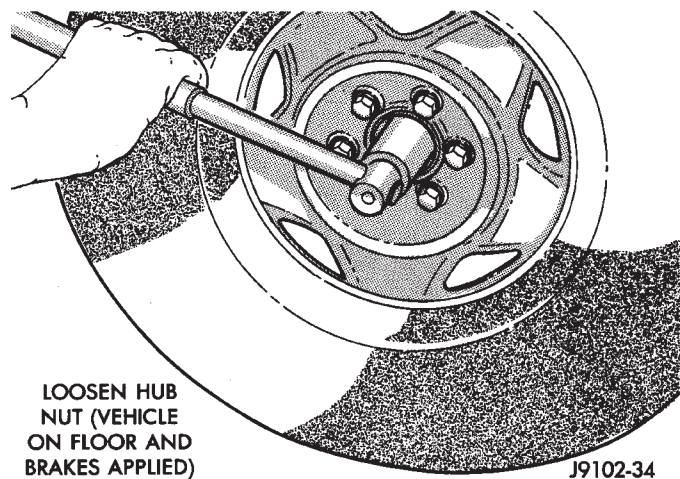

Fig. 3 Loosening Wheel Hub Nut
(2) Loosen the lug nuts and hub nut while the vehicle is on the surface with the brakes applied (Fig. 3).